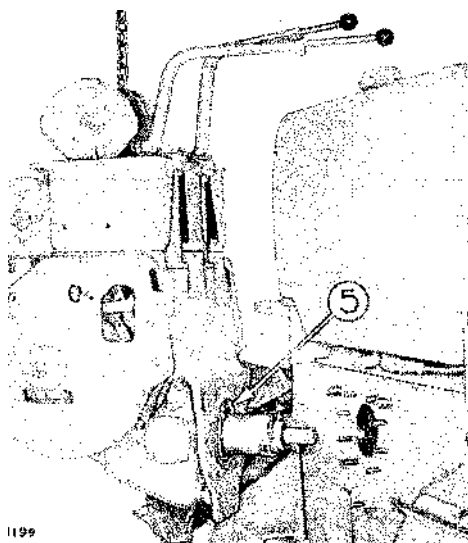

FIGURE 4—
A. Installing No. 25 Cable Control on D6, D7 and D8 Tractors and No. 23 Cable Control on D6 and D7 Tractors. (See figure 4.)
- (1) Hook a chain in the place provided on the sheave support bracket as illustrated and lift the unit to the required height.